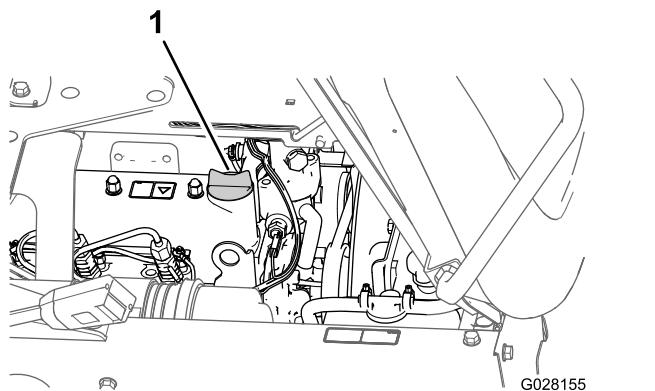

Figure 74
3. If the oil level is low, remove the filler cap from the valve cover and pour oil into the filler neck until the oil level is up to the Full mark on the dipstick (Figure 74).